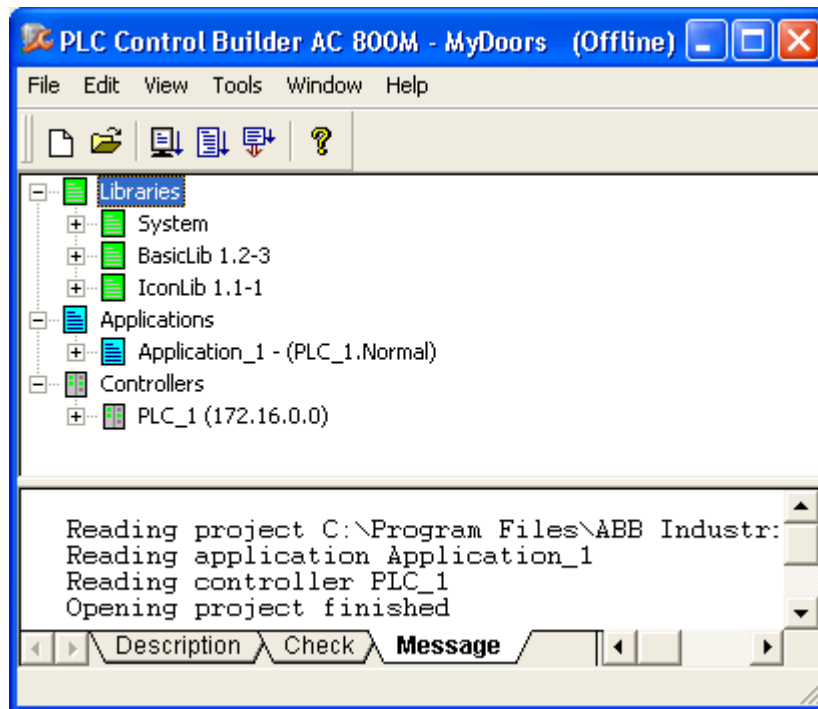

Figure 17. MyDoors project opened in Project Explorer.
3. Click **OK**. Project Explorer creates and opens MyDoors project, see Figure 17.